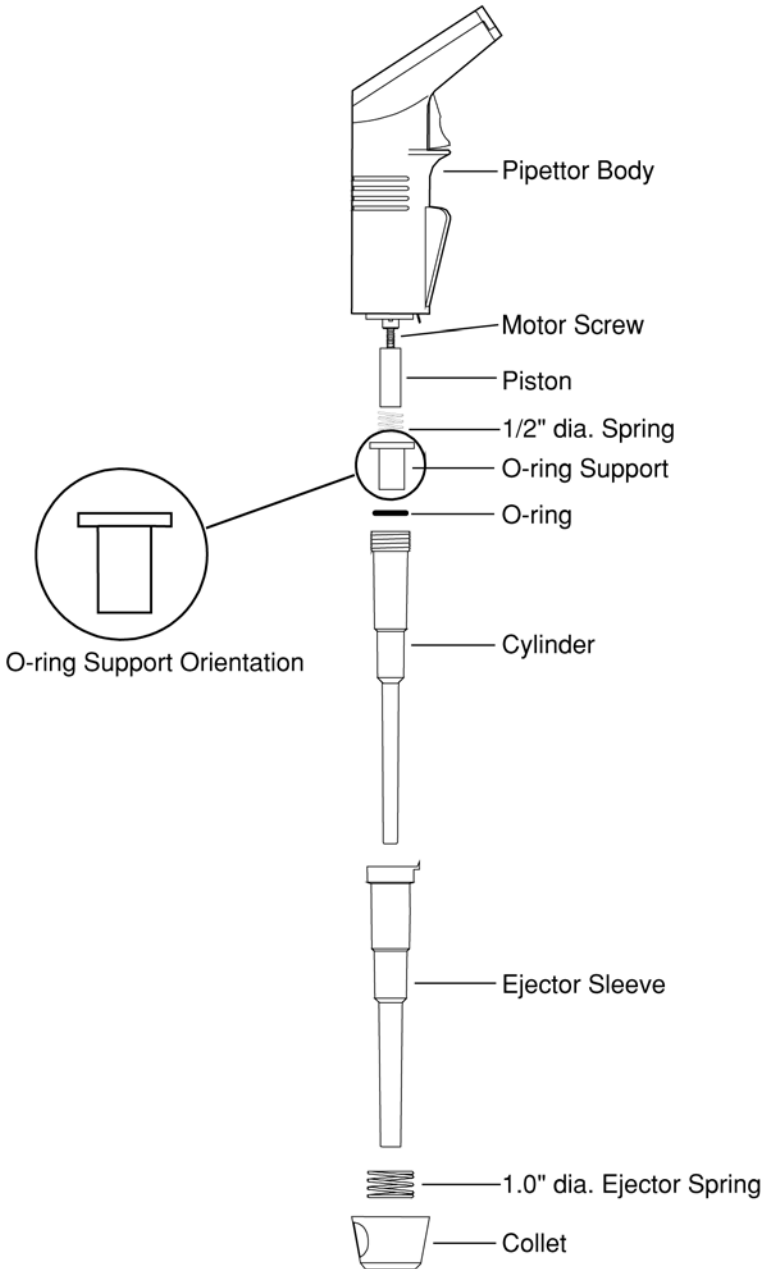

Figure F.1.1c: Pipette Tip Assembly
4. Remove O-ring, O-ring support, and 1/2" diameter spring for cleaning by sliding them off of the the piston (refer to Figure F.1.1c).
After cleaning or decontaminating the disassembled parts, the pipette can be reassembled (refer to Figure F.1.1c for parts identification and reassembly order).